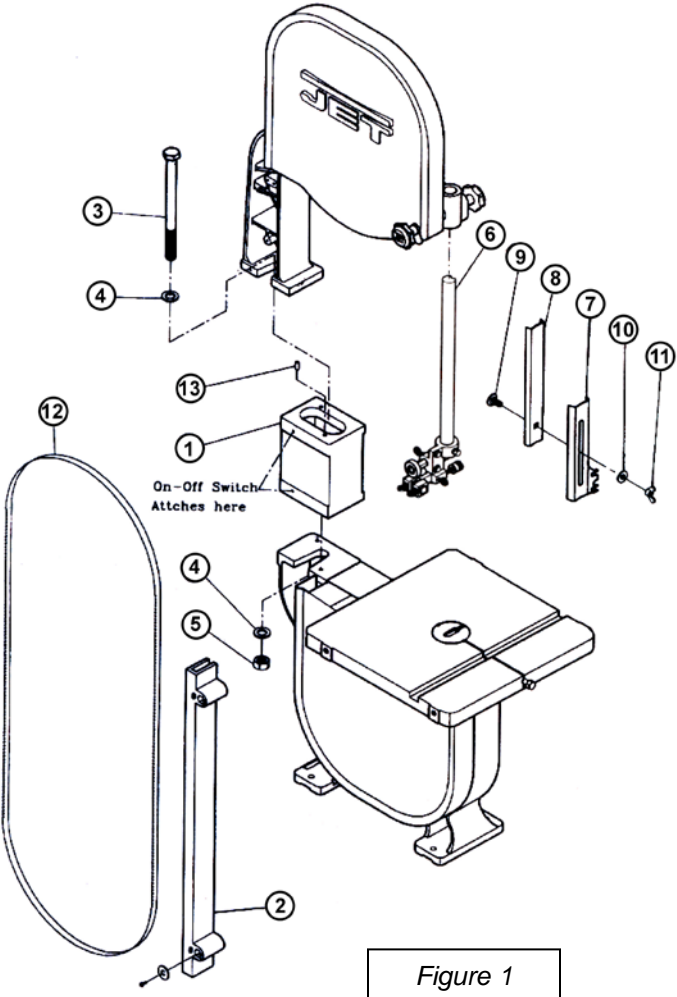

Figure 1
7. Fasten new blade guard assembly (Item #2, Fig. 1) to the saw arm and saw body.
14. Fasten the new blade guard assembly (Item #7-11, Fig. 1) to the upper blade guide bracket. **Note:** Always adjust the blade guard assembly to cover the blade completely whenever the guide post height is changed.